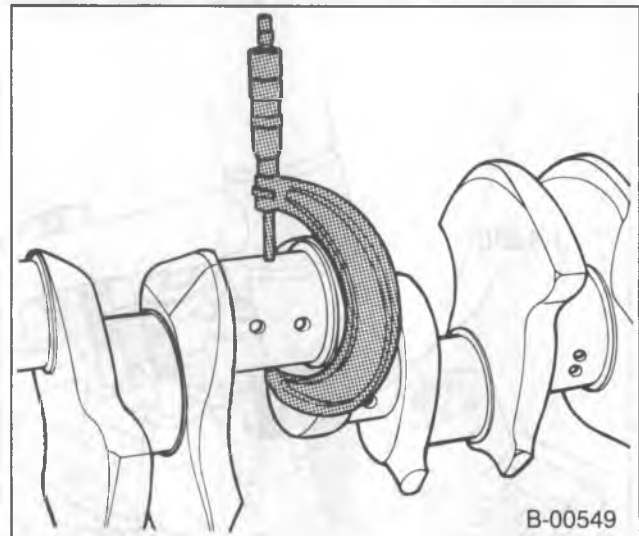

Figure 25—Measuring the Crankshaft Journals
- Main bearing and connecting rod journal diameters (figure 25). Compare with "Specifications." Grind or replace the crankshaft if necessary.
- Main bearing and connecting rod journals for taper and out-of-round (figure 25). If the journals are tapered more than 0.001-inch or out-of-round more than 0.002-inch, grind or replace the crankshaft.